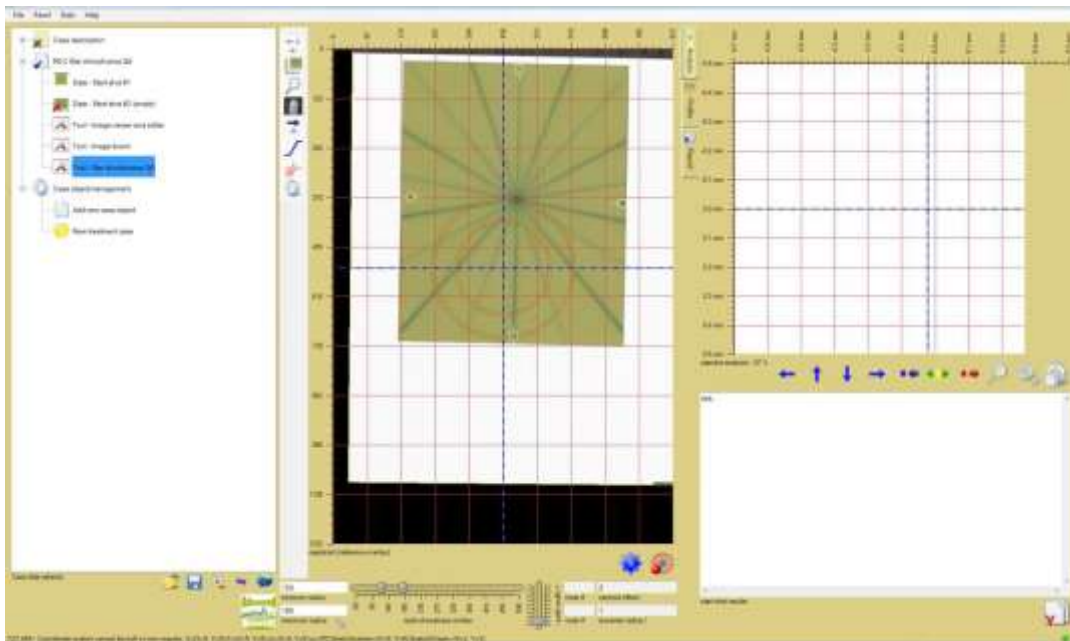
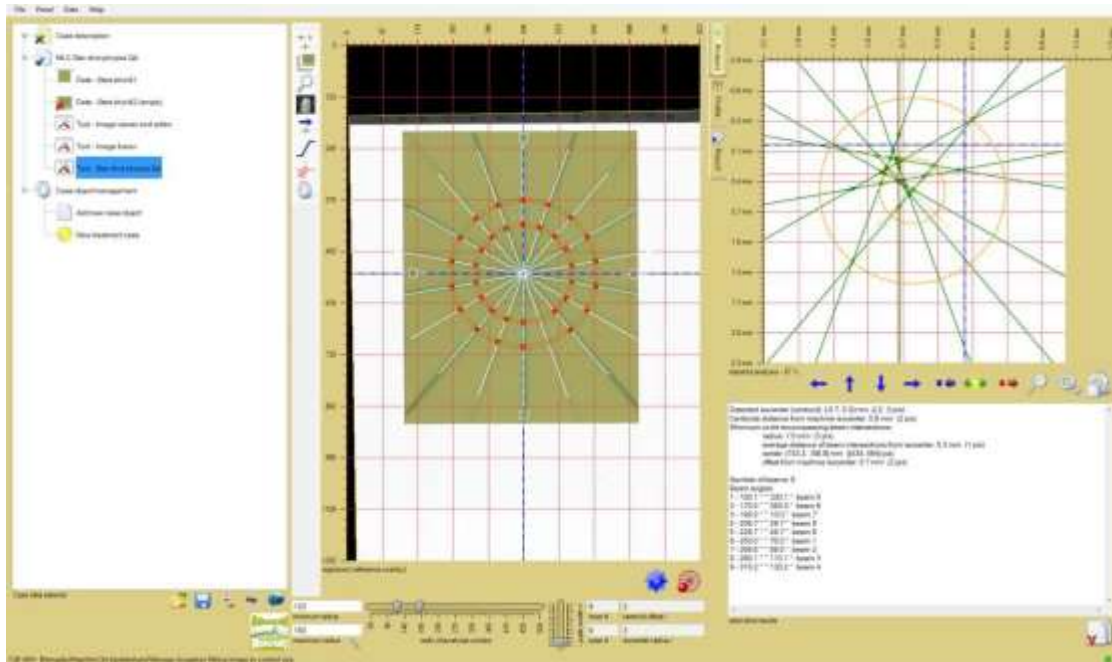

Figure 7
Figure 8
- Click on “Tool – starshot physics QA” to activate the analysis. The fiducial marks should automatically align with the axes in the display, but if they do not – as shown in Figure 7 – click on the  icon and select “Fit fiducials horizontally, vertically and rotationally”. The aligned image is shown in Figure 8